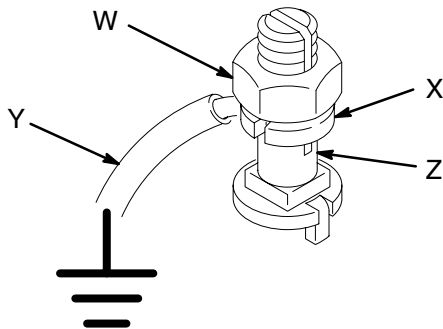

Fig. 1
1. *Pump:* use a ground wire and clamp. See Fig. 1. Loosen the grounding lug locknut (W) and washer (X). Insert one end of a 1.5 mm2 (12 ga) minimum ground wire (Y) into the slot in lug (Z) and tighten the locknut securely. Connect the other end of the wire to a true earth ground. Order Part No. 237–569 Ground Wire and Clamp.